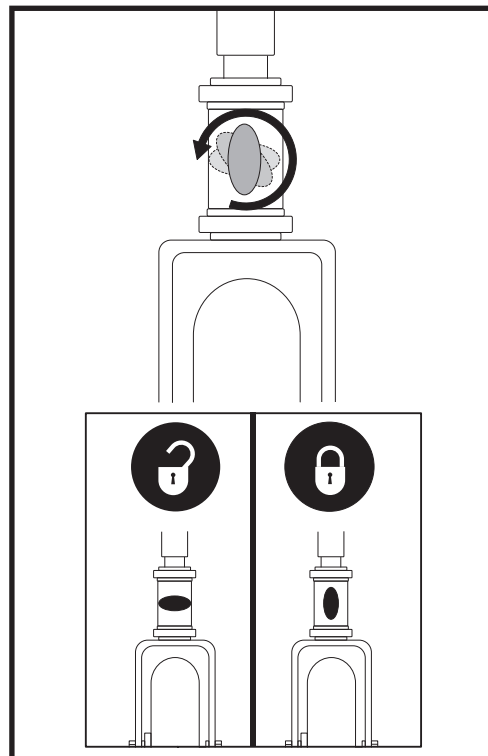

Figure 20. Tiller Lock Knob
1. Remove the key from the key switch. Lock the tiller in the straight ahead position by pushing the tiller lock knob in and turning it clockwise 90°. **See figure 20.** The front wheel must face forward in order to lock the tiller.